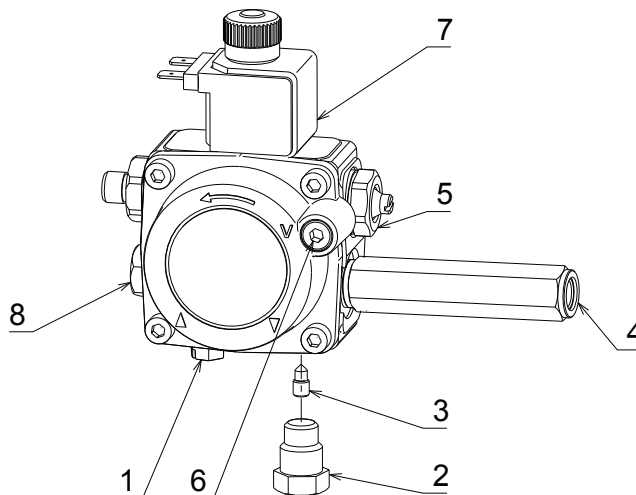

Figure 3-5: Riello RDB pump
3.2.1 SINGLE PIPE (GRAVITY) CONNECTION - REFER TO FIGURE 3-5